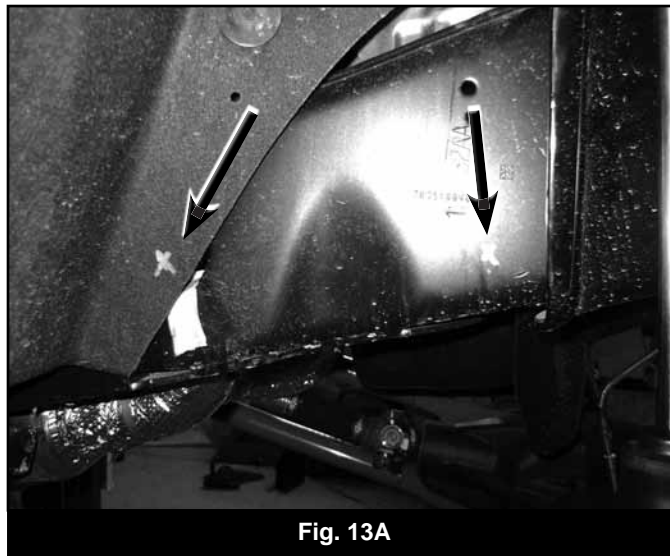

Fig. 13A
38. The ABS lines need to be rerouted along the frame. Make a mark on the frame approximate 1-1/2" behind the coil bucket and 1-1/2" from the bottom of the frame. Drill a 7/32" hole at the mark. Drill a second 7/32" hole in the inner fender liner, straight back from the first hole location. (Fig 13A)